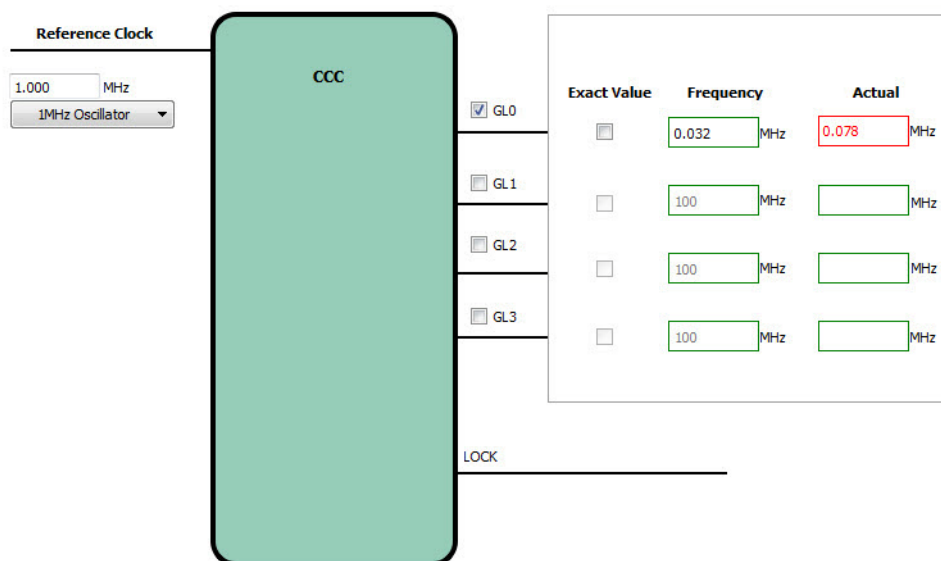

Figure 2-3 • Actual Frequency Number
2. Ignore the Actual Frequency Number displayed in red (Figure 2-3).